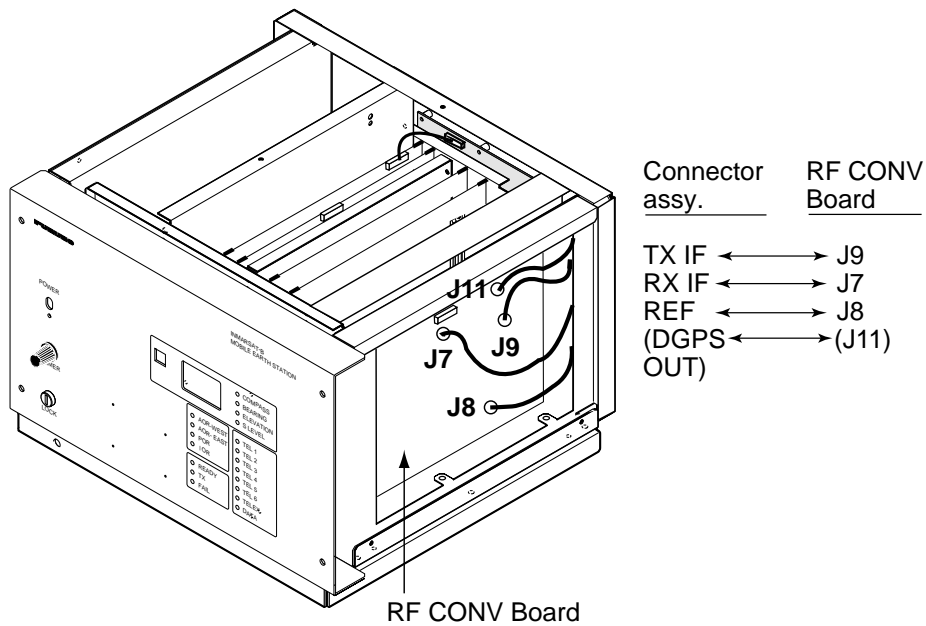

Figure 23 Communication unit, right side view
13. Connect the four plugs from the connector fixing plate to the RF CONV Board as shown in Figure 23.